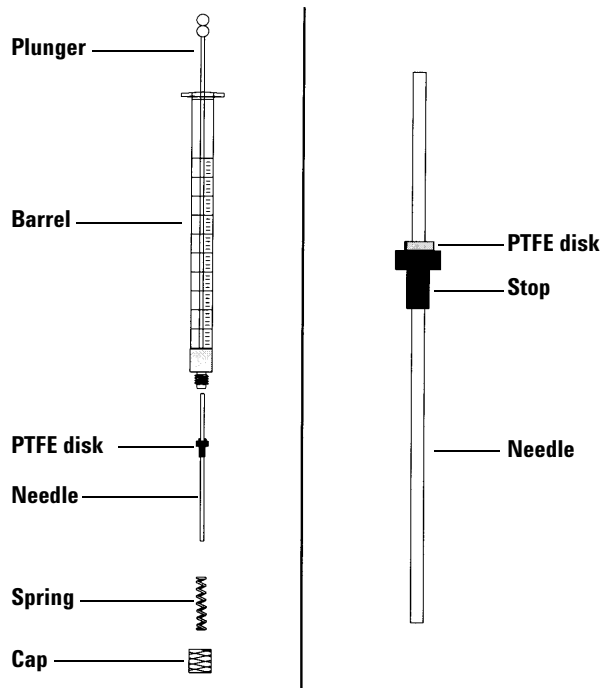

Figure 43 Syringe parts
To insert a needle into a syringe barrel (Figure 43):
- 2 Make sure the needle has a PTFE disk (Figure 43). If the syringe barrel does not have the PTFE disk, use the instructions in the syringe box to wrap the needle yourself.